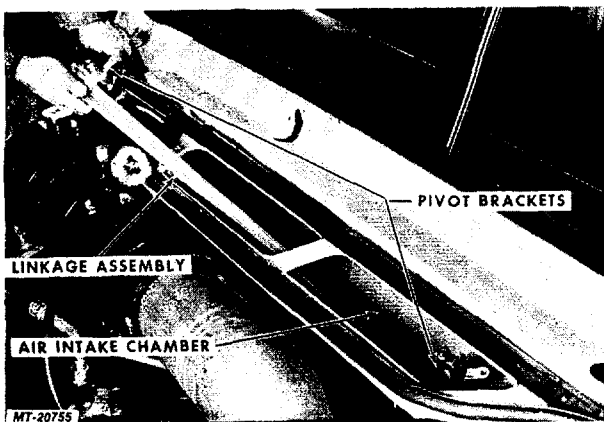

Fig. 4 Removing Windshield Wiper Linkage Assembly
6. Remove three mounting bolts from each pivot bracket and lift out complete pivot brackets and wiper linkage assembly from inside air intake chamber (Fig. 4).